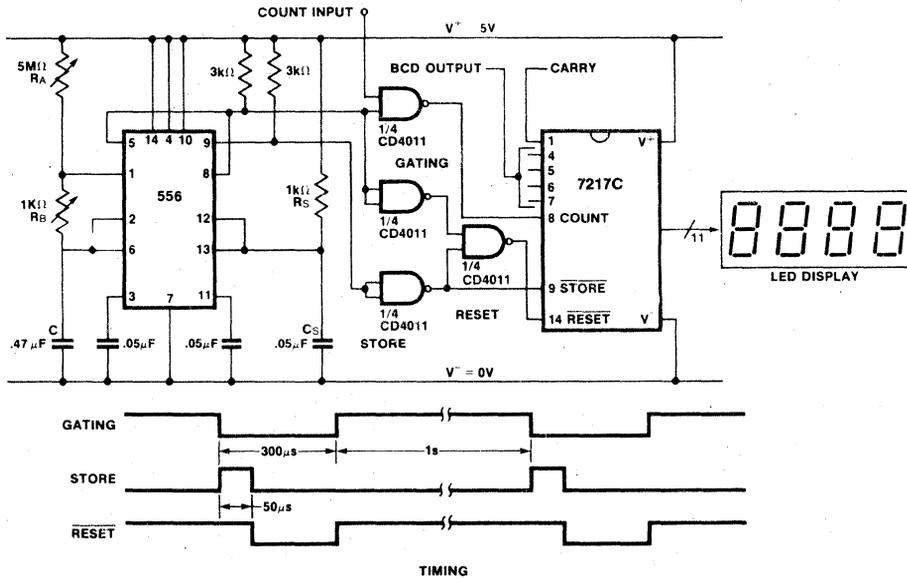

Figure 12: Inexpensive Frequency Counter
This circuit uses an ICM7213 precision one minute/one second timebase generator and a 4.1943 MHz crystal oscillator and divider for generating pulses counted by an CD-7217BC. The thumbwheel switches allow a starting time to be entered into the counter for a preset-countdown type timer, and allow the register to be set for compare functions. For instance, to make a 24-hour clock with BCD output the register can be preset with 2400 and the Equal output used to reset the counter. Note the 10k resistor connected between the LC terminal and V^- . This resistor pulls the LC input low when not loading, thereby inhibiting the BCD output drivers. This resistor should be eliminated and SW4 replaced with an SPDT center-off switch if the BCD outputs are to be used. This technique may be used on any 3-level input. The 100k pullup resistor on the count input is used to ensure proper logic voltage swing from the ICM7213. For a less expensive (and less accurate) timebase, a 555 timer may be used in a configuration like that shown in Fig. 12 to generate a 1Hz reference.
7. INEXPENSIVE FREQUENCY COUNTER/ TACHOMETER (Figure 12)
Note that in comparison to Fig. 12, the store and reset signals are generated by CD4000 series one-shots. The operation of the two circuits is similar.